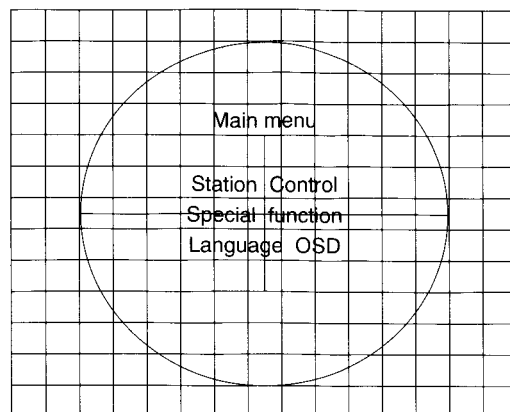

Fig. 7
- ⑤ Supply the color signal to the TV.
- ⑥ Set the color, contrast, brightness to normal using the remote control key(→, ←).
- ① Supply the COLOR signal to the TV.
- ② Set the color, contrast, brightness to normal using the remote control key(→, ←).
- ③ Vary SW301 so that the screen may be centralized.
- ① Supply the color signal to the TV.
- ③ Press the MENU key on the remote control unit to make the main menu OSD appear on the screen.
- ④ Vary VC01 so that the character "f" may be located on the center as shown in fig.7.
- ⑤ This adjustment is available for the english language only.